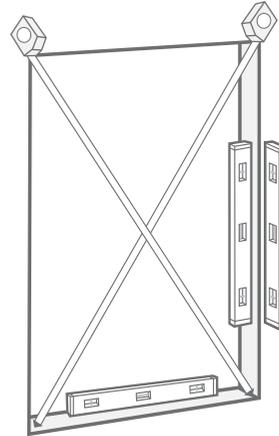

fig. 2
- Make sure the walls are plumb and not twisted. Check the rough opening for square by measuring diagonally from corner to corner in both directions. Measurements cannot differ from each other by more than 1/4". Check the sill for level and make sure jambs are plumb. (fig. 2)
- Insure the window is level, square and plumb. (**fig. 2**)